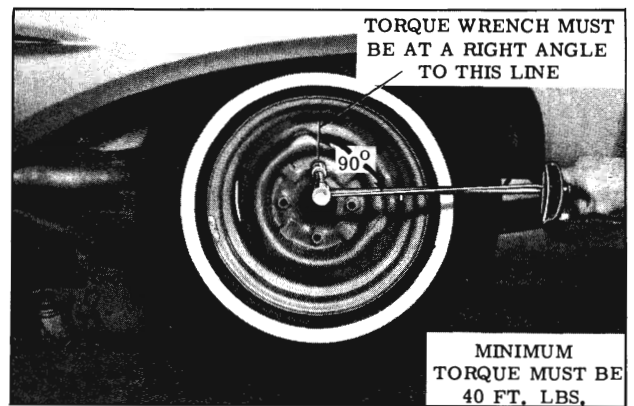

Fig. 6-137 Checking Anti-Spin
3. Remove hub cap or wheel disc and apply a torque wrench as shown in Fig. 6-137.